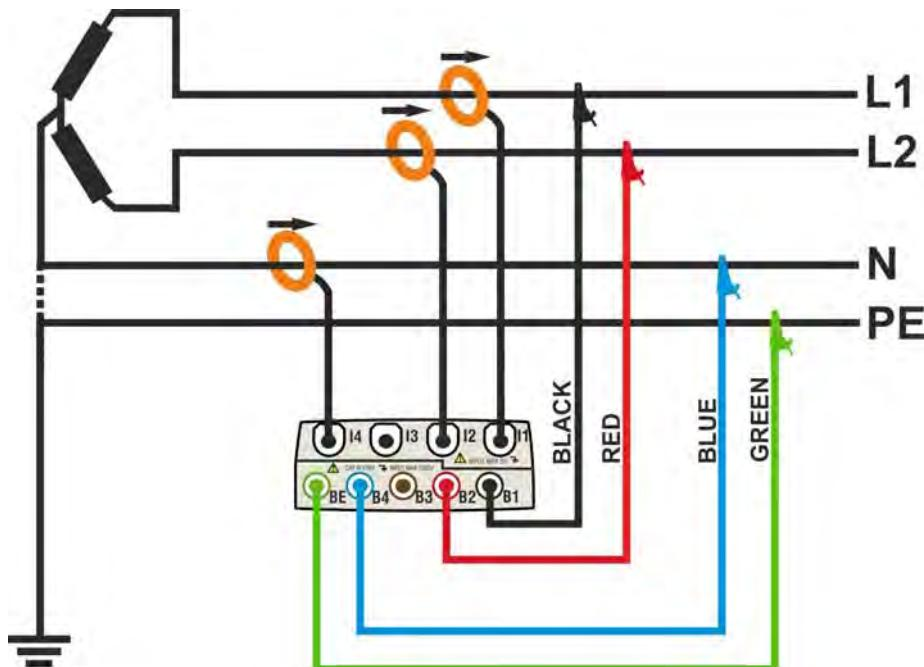

Fig. 126: Meter connection in a two phase 3-wire 3P 2E system – ENG type
2. Connect voltage test leads on Phases L1, L2, N and PE cables considering the colours as shown in Fig. 126
3. Connect the transducer current clamps on Phase L1, L2, N cables as shown in Fig. 126 respecting the clamp's arrow direction indicating the current standard sequence from generator to load. **On Real Time Values' section screens (selecting a 3 wire system preliminarily) always verify the positive value of Active Power and the power factor relative to load which should be normally inductive** before starting a recording. Reverse the clamp by 180 degrees on cables in case of negative readings.